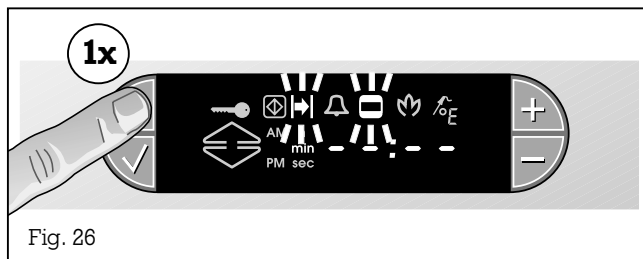

Fig. 26
- Press the ⌚ (Timer) key once. The ⏱ (Duration) symbol and the 🍲 (Cooking time) symbol flash on the display. Dashes appear on the display (i.e. no value programmed) (Fig. 26).